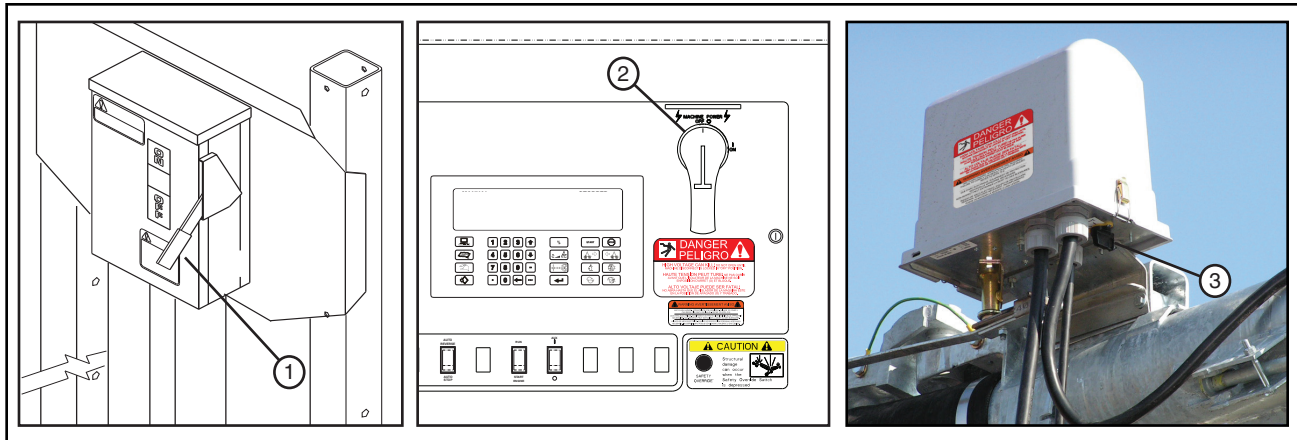

Figure 34-1 1. Main Service Disconnect Switch
- Main Service Disconnect Switch from public power to the control panel. See figure 34-1.
- Control Panel Main Disconnect Switch. See figure 34-1.
- Any Tower Box Disconnect Switch. See figure 34-1.